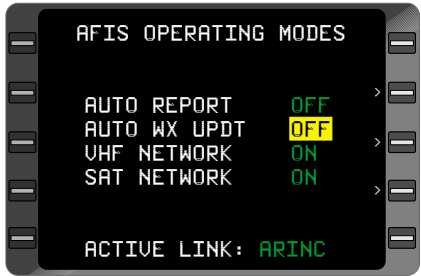

Figure 7-89
4. Line Select Key - DEPRESS to position cursor over **OFF** option of **AUTO WX UPDT** field. (Figure 7-89)